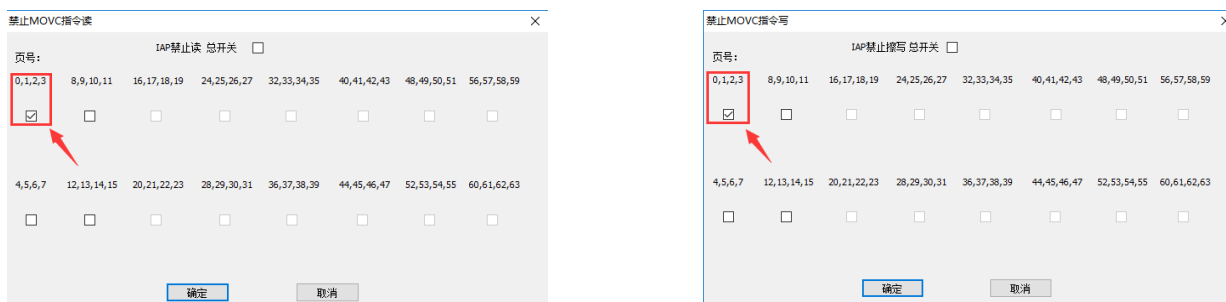

Figure 2-8
3. Check the corresponding sector according to your needs and click OK. (Figure 2-8)
After KEIL is compiled, the compiled byte size will be generated. Take the HC89S003F4 "Flash as EEPROM-like read and write" example as an example. The compiled bytes in this example are 585 (as shown in Figure 2-9). The protection is a unit, so check pages 0, 1, 2, and 3 when checking (Figure 2-5 and Figure 2-8). Some MCUs use 1K bytes as the protection unit, and users can choose according to their needs.